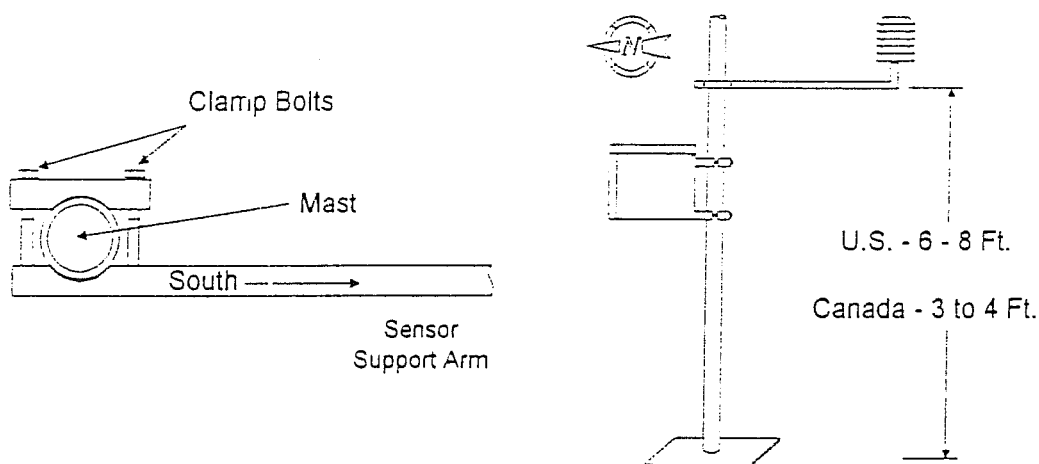

Figure 4-15
2. While one person supports the sensor end, another can attach the support arm to the mast with the clamp bolts. Exact positioning of the device is not critical though the above recommendations should be observed when possible. See Figure 4-15.